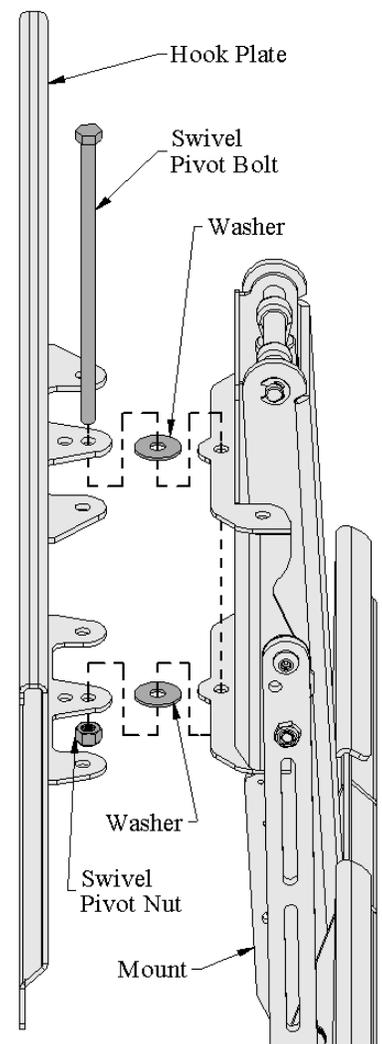

Figure 6 Swivel Bolt (Side View of Mount)
3. Once you know the holes that you will use, slide the Swivel Pivot Bolt through the holes and washers from the top as shown in Figure 6.